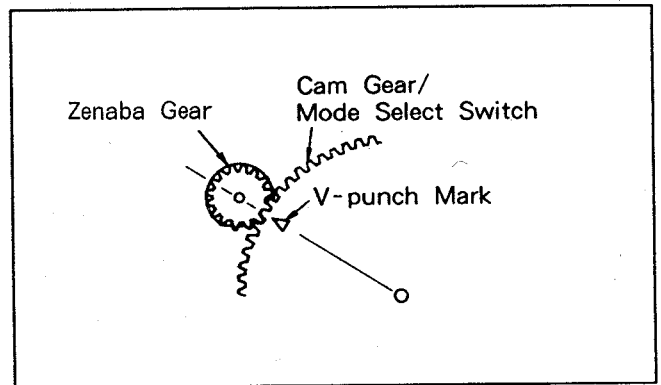

Fig. A2
- 12) Align V-punch mark on the cam gear with the shaft of the zenaba gear. See Fig. A2. Reinstall loading gear 5 with the flat side down.